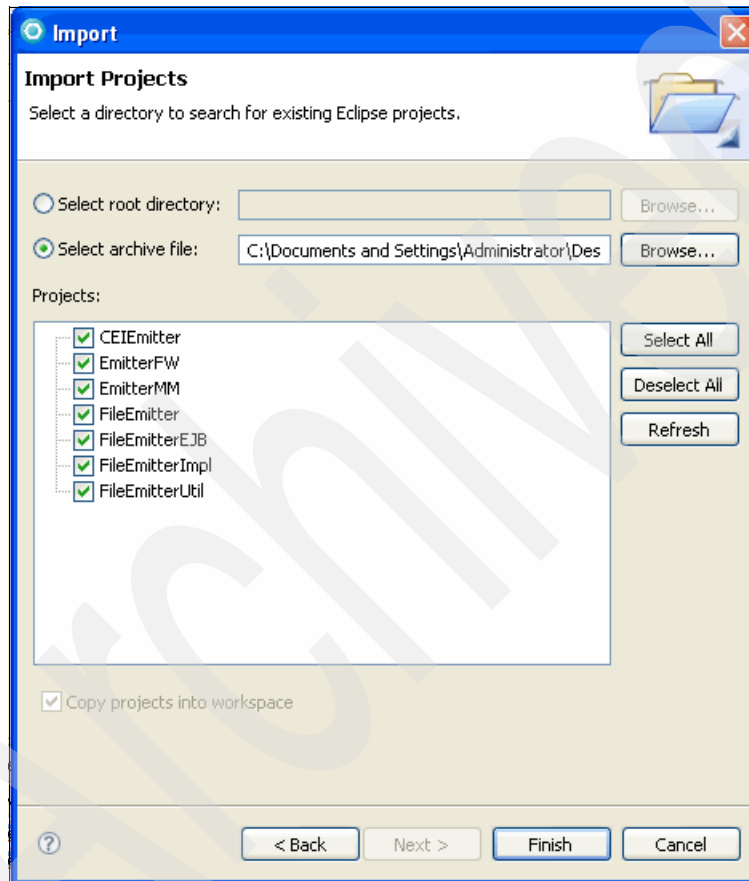

Figure 9-6 Importing the archive file
4. In the Import – Import Projects window (Figure 9-6):